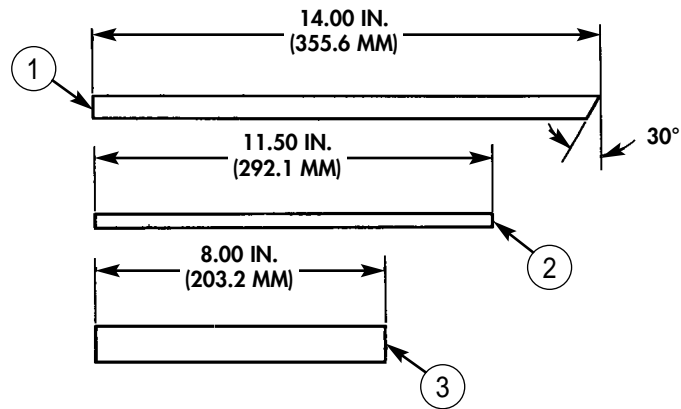

Figure D-110. Bars For Cylinder Head Lifting Device.
1. Cut a 14-inch (355.6 mm) long section (1) of metal bar from NSN 9510-00-224-1692 as shown in figure D-110.
2. Cut a 11.5-inch (292.1 mm) long section (2) from NSN 9510-00-287-9402 as shown in figure D-110.
3. Cut an 8-inch (203.2 mm) long section (3) from NSN 9510-00-596-1405 as shown in figure D-110.